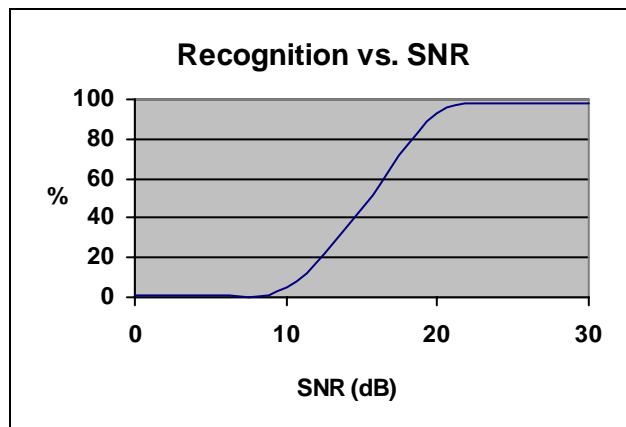

Figure 1
- The Sensory RSC-4128 and RSC-464 ICs work best when the Signal-to-Noise Ratio (SNR) is 18 dB or higher. Lower SNR translates into lower accuracy. Figure 1 shows the approximate Recognition vs. SNR relationship.